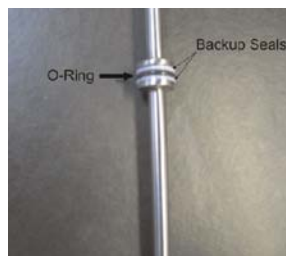

Figure 6
- 3.3.1 Replace the O-ring (Part 12) and backups (Part 10) in the piston (also see Figure 6).